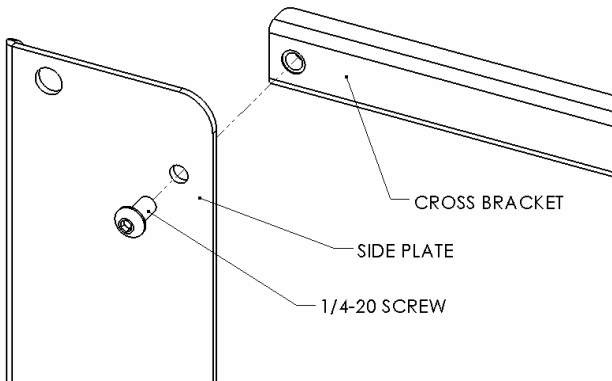
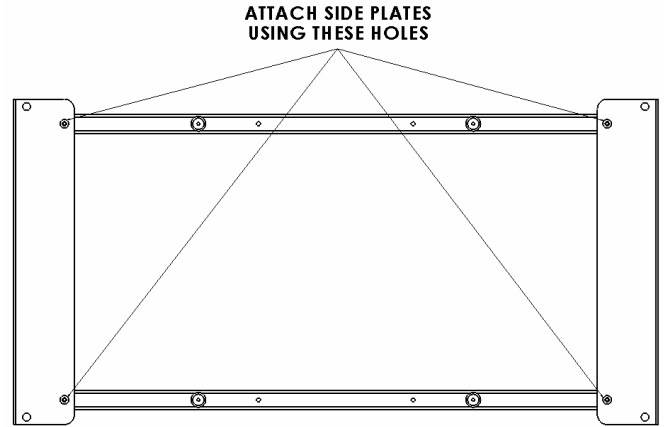

Figure 4
Figure 5
- Using four 1/4-20 button head cap screws, attach top and bottom to side brackets. (see Figure 4 & Figure 5).